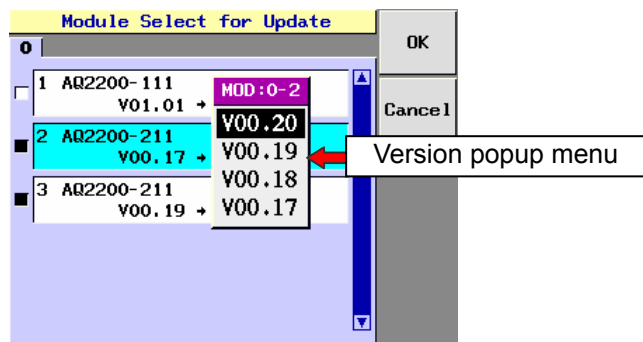

Fig. 9-6 Update Version Selection Screen
| <Ver>:    | Used to select the software version suitable for the module.If this key is pressed, Update Version Selection Screen shown in Fig. 9-6 will appear.If "NO MODULE" is displayed, or if software compatible with the module is not found in the selected storage device, it is displayed in thin characters. |
9. With the [▲] or [▼] key, move the cursor to “Module”, and press the <Select> key to select the module to be updated. (By default, all the modules are selected if the corresponding software is stored in the selected storage device.) If two or more software versions exist in the selected storage device, press the <Ver> or [ENTER] key to display Update Version Selection Screen shown in Fig. 9-6. Move the cursor to the desired version, and press the <OK> or [ENTER] key.